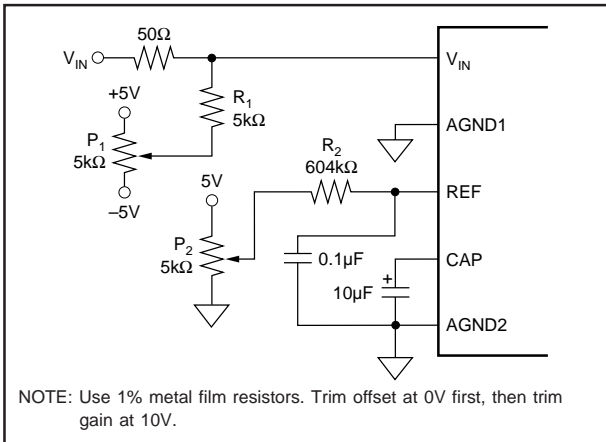
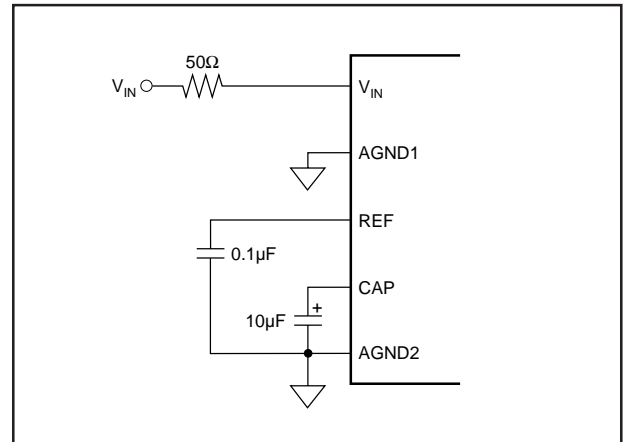
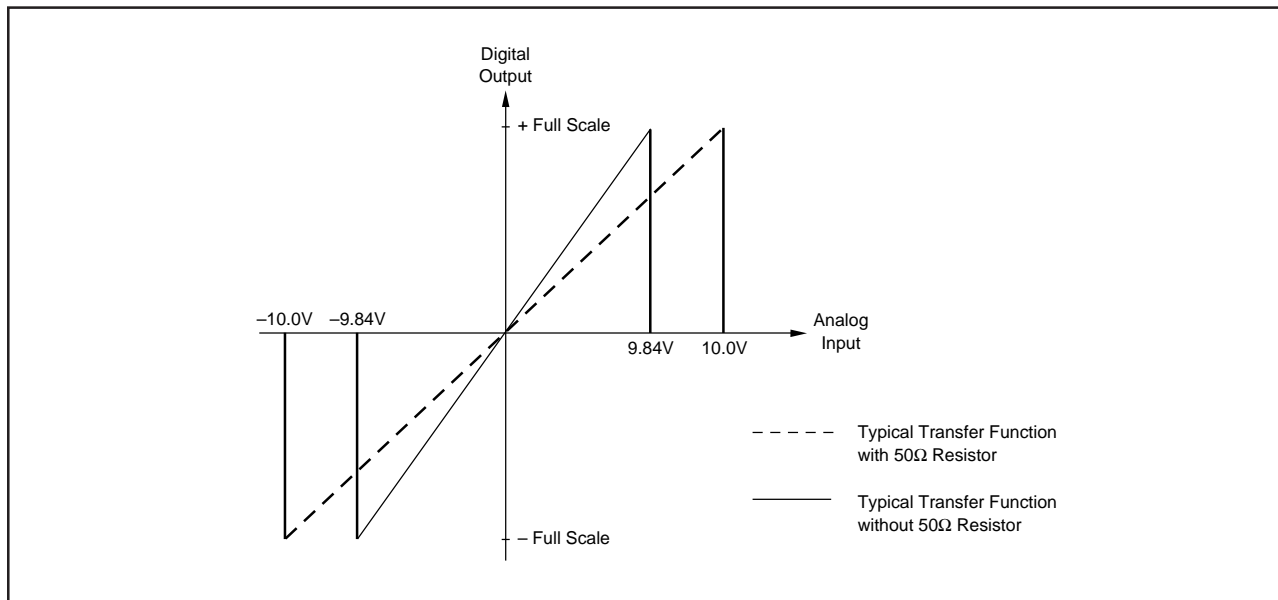

FIGURE 4a. Circuit Diagram With External Hardware Trim.
FIGURE 4b. Circuit Diagram Without External Hardware Trim.
FIGURE 5. Comparison of the ADS7810 Transfer Function With and Without the  $50\Omega$  Series Resistor on  $V_{IN}$ .
T = +25°C,  $f_s = 800\text{kHz}$ ,  $+V_{\text{DIG}} = +V_{\text{ANA}} = +5\text{V}$ ,  $-V_{\text{ANA}} = -5\text{V}$ , using internal reference and the input  $50\Omega$  resistors as shown in Figure 4b, unless otherwise specified.
T = +25°C,  $f_s = 800\text{kHz}$ ,  $V_{DIG} = +V_{ANA} = +5\text{V}$ ,  $-V_{ANA} = -5\text{V}$ , using internal reference and the 50Ω input resistors as shown in Figure 4b, unless otherwise specified.
The ADS7810 offers a standard  $\pm 10V$  input range. Figures 4a and 4b show the necessary circuit connections for the ADS7810 with and without external trim. Offset and full scale error(1) specifications are tested and guaranteed with the  $50\Omega$  resistor shown in Figure 4b. This external resistor makes it possible to trim the offset  $\pm 50mV$  using a trim pot or trim DAC. This resistor may be left out if the offset and gain errors will be corrected in software or if they are negligible in regards to the particular application. See the **Calibration** section of the data sheet for details.
To calibrate the offset and gain of the ADS7810, install the proper resistors and potentiometers as shown in Figure 4a. The calibration range is  $\pm 50\text{mV}$  for bipolar zero and  $\pm 120\text{mV}$  for full scale.
See Figure 4b for circuit connections. Note that the actual voltage dropped across the  $50\Omega$  resistor is nearly two orders of magnitude lower than the voltage dropped across the internal resistor divider network. This should be taken into consideration when choosing the accuracy and drift specifications of the external resistors. In most applications, 1% metal-film resistors will be sufficient.
The external  $50\Omega$  resistor shown in Figure 4b may not be necessary in some applications. This resistor provides trim capability for the offset and compensates for a slight gain adjustment internal to the ADS7810. Not using the  $50\Omega$  resistor will cause a small gain error but will have no effect on the inherent offset error. Figure 5 shows typical transfer function characteristics with and without the  $50\Omega$  resistor in the circuit.